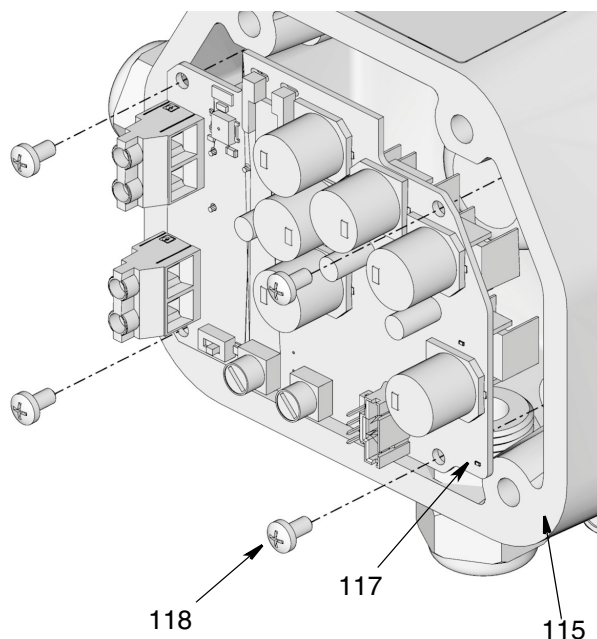

FIG. 67
1. Install new board (117) in housing (115) using screws (118) (FIG. 67). Torque to 8-10 in. lbs (0.9-1.13 N.m).